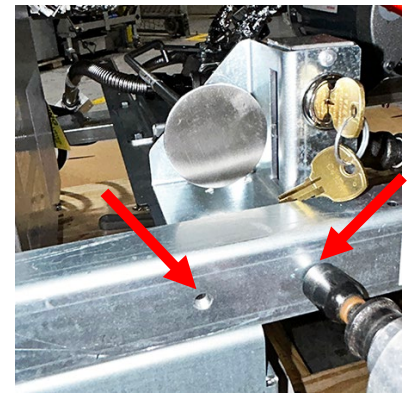

Figure 6
13. Align the front handle assembly so the rod is aligned directly parallel to the contactor box. Attach the handle assembly to the front cross brace using existing holes and secure with 8090412 5/16" cabinet screws (see Figure 6). Pull the handle completely forward away from the fryer and push back towards the fryer. Ensure the handle moves freely.